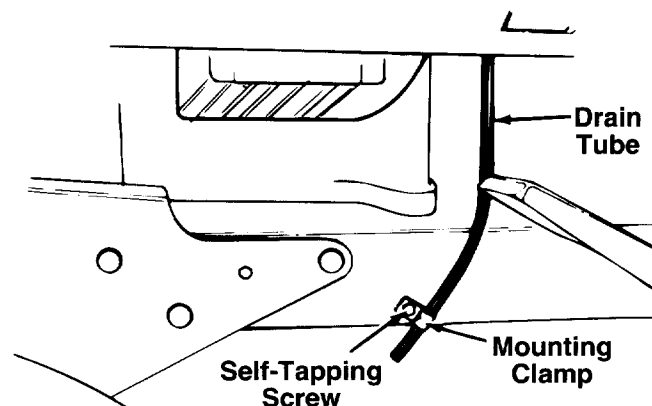

FIGURE 15.
5. Route the battery drain tube over to the **left** side of the tractor. Loosen the self-tapping screw which secures the mounting clamp. See figure 15. Slip the end of the drain tube into the mounting clamp. Tighten the self-tapping screw to secure the clamp. Do not overtighten which could collapse the drain tube.